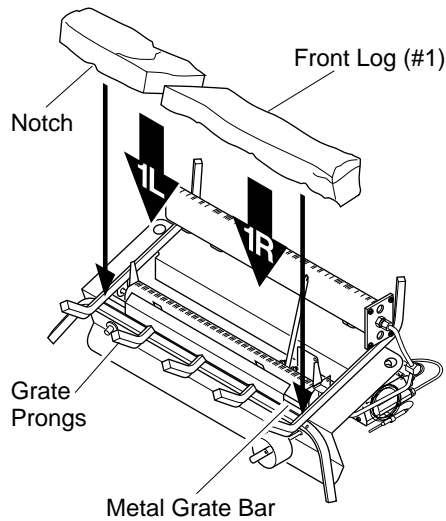

Figure 16 - Installing Front Log (#1)
1. Place front logs (#1L and #1R) on top of the grate. Make sure the notches in the bottom of the logs fit over the grate prongs (see Figure 16). Push back of logs flush with metal grate bar. *Note:* 18" model has only one front log.